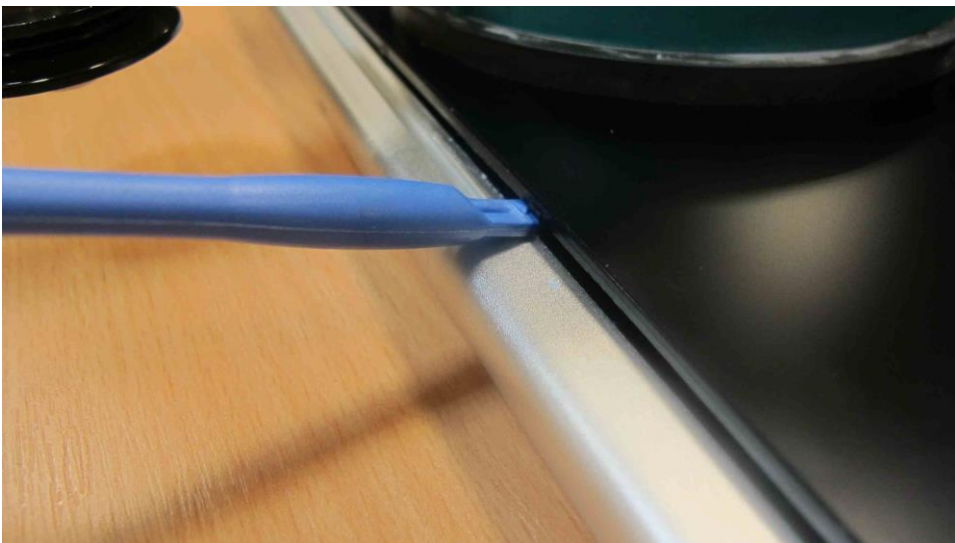

Figure 8.
- With the aid of an assistant, hold the display Tablet casing and carefully lift the suction device to create small gap at the LOWER edge. Using a small non-metallic wedge shaped tool detach the lower front edge of the screen from the casing – figure 8.